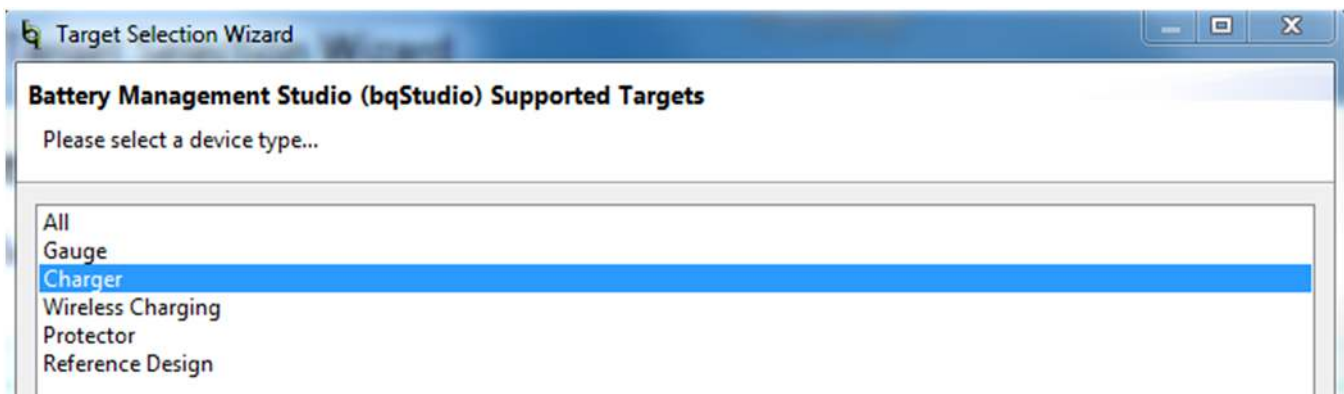

Figure 4. Select “Charger” in bqStudio Window
- Turn on the computer. Launch *Battery Management Studio* (bqStudio). Select *Charger* and bq25871 (or bq25872 accordingly) evaluation software. The main window of the software is shown in Figure 4.